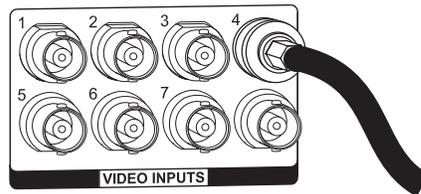

FIG. 10 Fasten cable connector onto BNC connector
1. Fasten the cable connectors onto the input and output BNC connectors (FIG. 10).